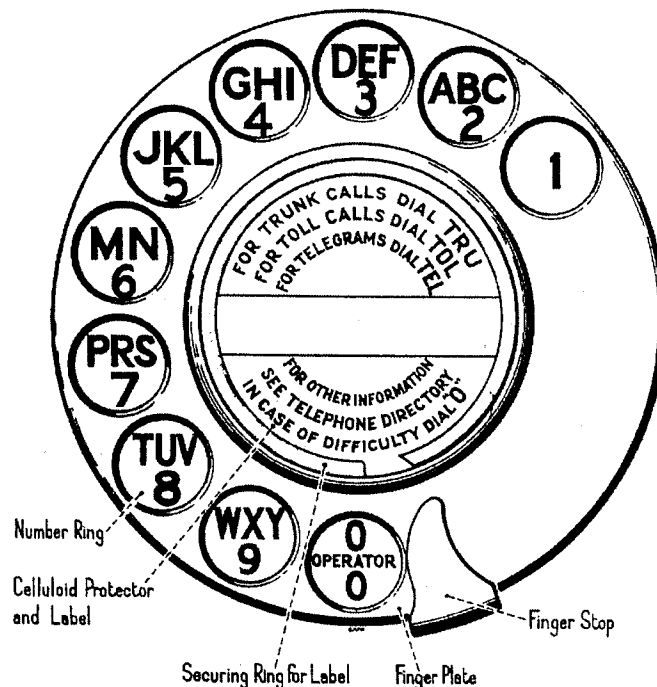
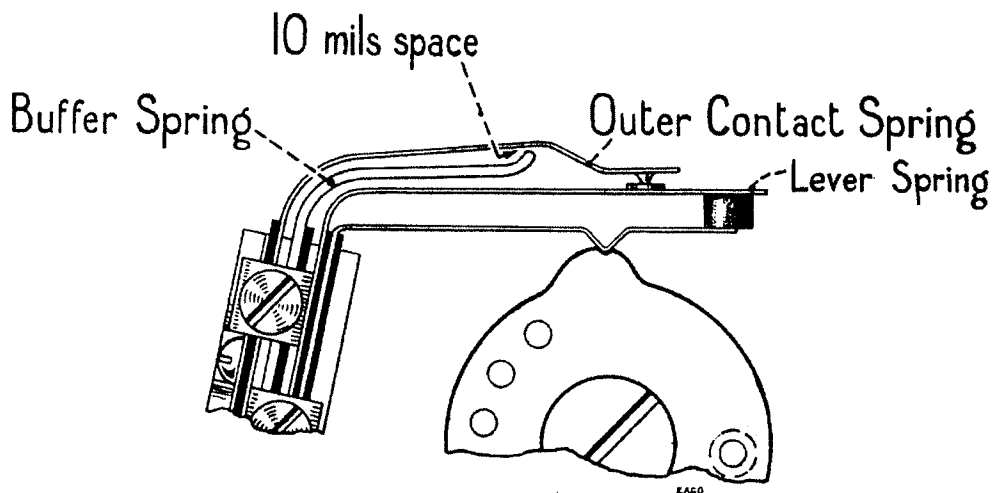

FIG.1. FRONT VIEW OF TYPICAL DIAL
FIG. 27. ADJUSTMENT OF AUXILIARY IMPULSE-CONTROL CAM
1. Introduction. This Instruction relates to the dismantling, assembly, adjustment and lubrication of P.O. standard dials. The two dials, viz:- "Dial, Automatic, No.10", and "Dial, Automatic, No.11", are identical except that the No.11 type has an auxiliary impulse-control cam and spring-set. Views of a "Dial, Automatic, No.10", showing the names of the parts are given in Figs. 1, 2 and 3, and a rear view of a "Dial, Automatic, No.11" is given in Fig.27. The necessary adjustments are described in this Instruction as follows:-
16. The auxiliary impulse-control cam should swing freely on its bearing, with a minimum amount of side-play. When the finger plate of the dial is moved steadily round from the "0" position (or from any other pre-determined position provided for by the insertion of an additional screw in the appropriate hole in the control cam) to the finger stop, the switching lever should, by contact with the control screw, trip the control cam off-normal immediately before the finger plate is stopped by the finger striking the finger stop. Also, the switching lever should, by contact with the control screw, just trip the control cam back to its normal position as the finger plate stops on the return of the dial to normal, i.e. the right-angle bend of the lever spring should engage in the notch at the top of the 'lift' of the control cam (see Fig.27). The control cam should not allow the auxiliary-spring contacts to close until after the impulsing contacts have finally closed.
17. Auxiliary springs. When the control cam is normal, there should be a gap of approximately 10 mils between the tip of the buffer spring and the outer contact-spring (see Fig.27).